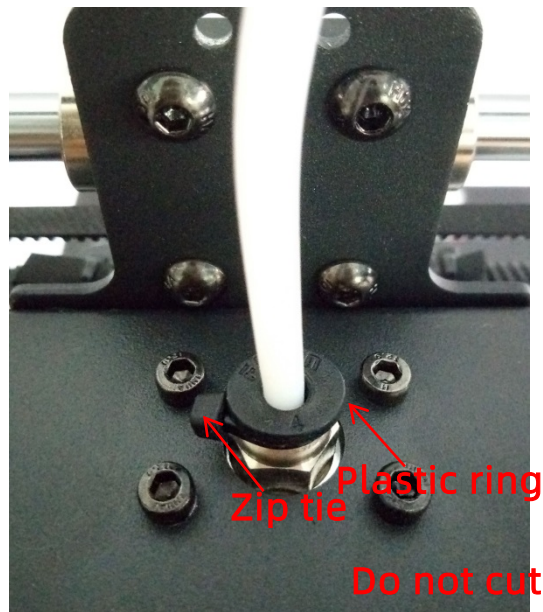

Figure 5
(3) **Fig.5**, customers may notice there is a ring of zip tie attached just below the plastic ring of the quick connector. Do not cut it off. Only cut this zip tie when swapping or repairing the hotend.